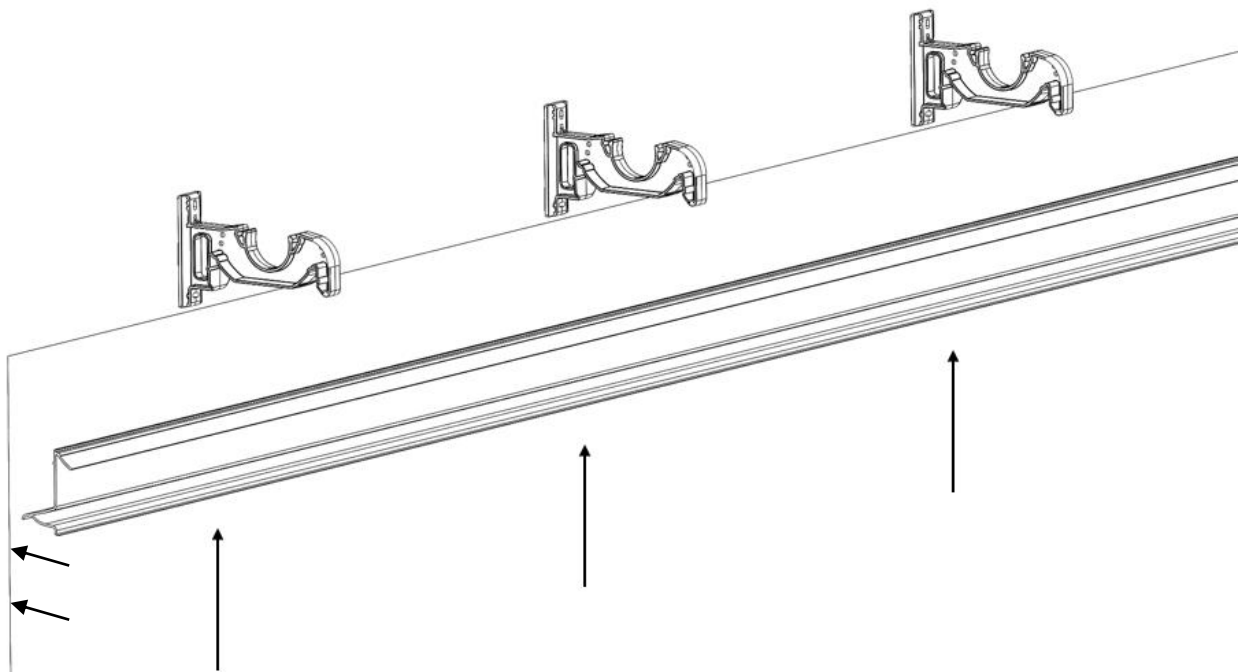

Figure 19
Insert the Pad Guide [ref. 9] in the Top Bracket on the wall side. See Figure 19.